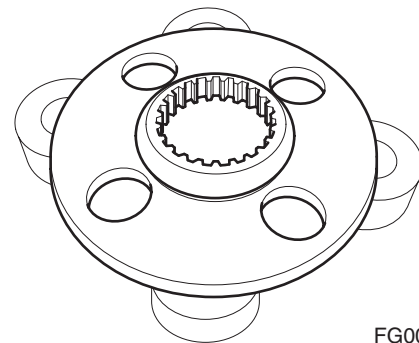

Figure 32
1. Put No. 1 carrier on assembly jig as shown in Figure 32.